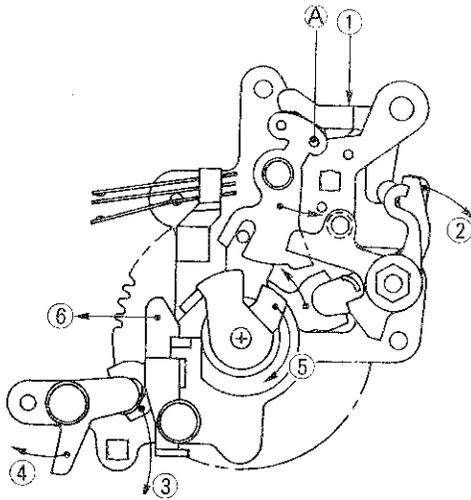
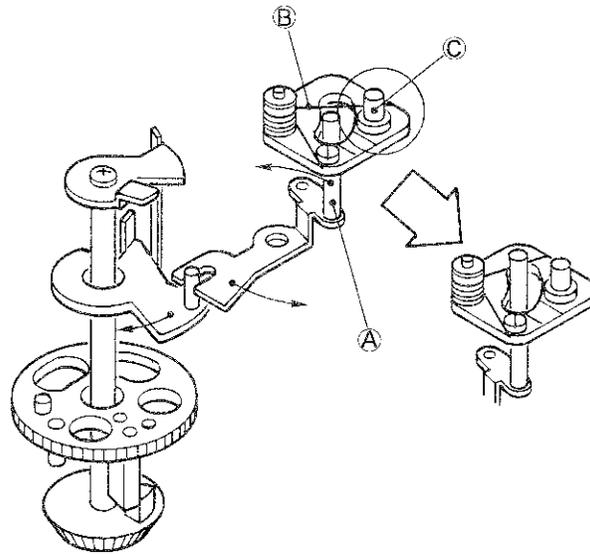

Fig. 27
Fig. 28
1. Drawing of shutter mechanism after cocking is shown in Fig. 27. When shutter release button is released, each lever operates in direction of the arrow, in numerical order as shown in Fig. 27. (6) charge latch is unlatched and 1st curtain runs. Simultaneously (A) pin (Fig. 28) pushes (B) contact, thereby the contact is released from (C) pin. At that time a start signal for counting shutter time value goes to IC1 of F.P.C. board.
2. The time which will be required for (B) is disengaged from (C) is applied as a reference time. Total calculation for the signal of closing 2nd curtain will be done in IC1 within the reference time. Second operation of MC will be made by the signal to close 2nd curtain.